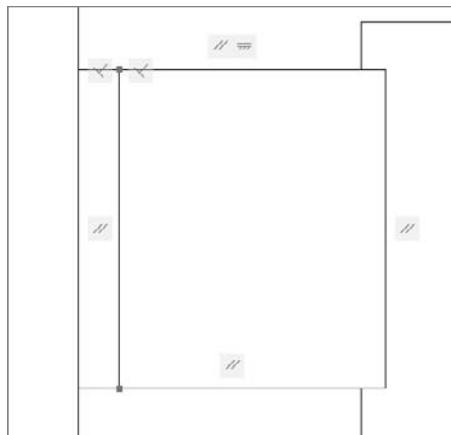

FIGURE 5.49 Geometric constraints inferred after drawing a line
5. Use the LINE command to draw a vertical line using the Nearest and Perpendicular object snaps as shown in Figure 5.49.